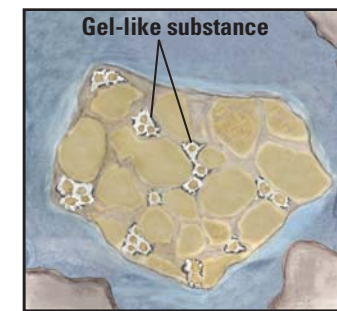

Figure 3. Controlled aluminate reactions in stage 1
- Sulfate dissolves quickly, too. It reacts with aluminate and water, forming a gel (C-A-S-H, a precursor to ettringite). The gel limits water's access to aluminate (figure 3). Reactions slow. Heat drops.